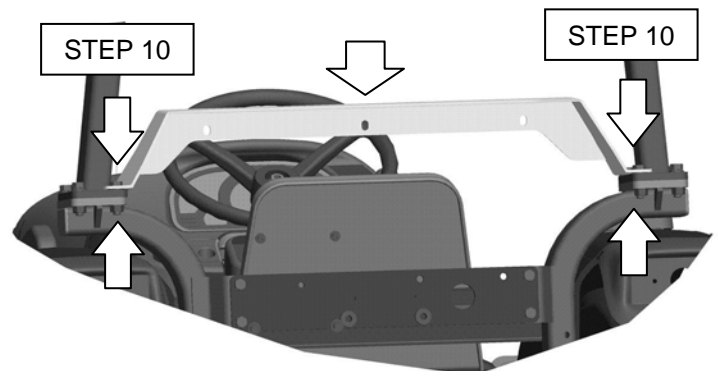

Figure 6
10. Re-install the inner 4 ROPS bolts and **torque to manufacturer's specifications**. See Figure 6.